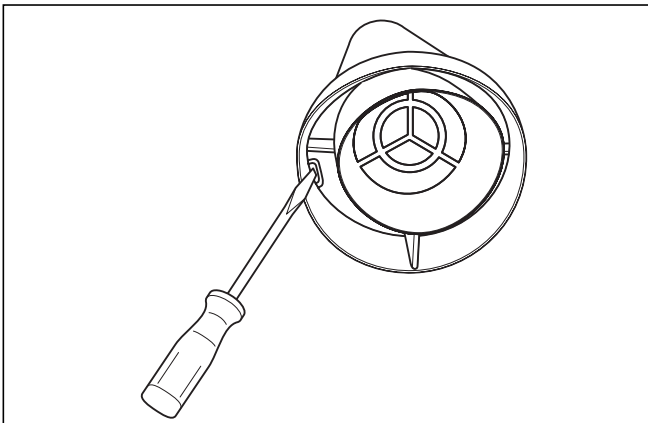

Fig. 2.18 Releasing the catches
- Use an 8 mm screwdriver to bend the catches inwards (fig. 2.18).